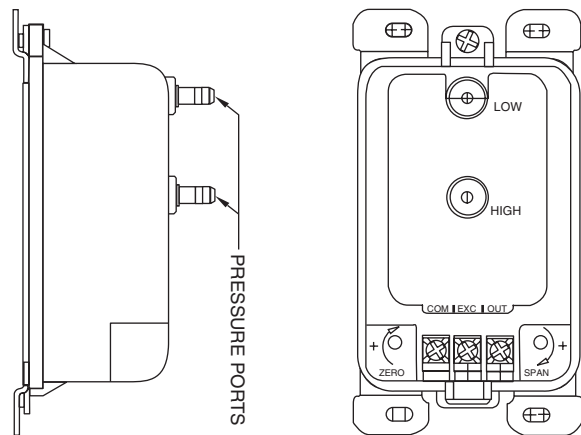

Fig. 48 — Transducer Details
3. Connect 24-vdc power supply and a multimeter in series with transducer terminals (+,-). See Fig. 48.
4. Adjust the "ZERO" screw potentiometer on the transducer and read the multimeter output until desired output at 0 in. wg pressure is obtained. See Fig. 48.